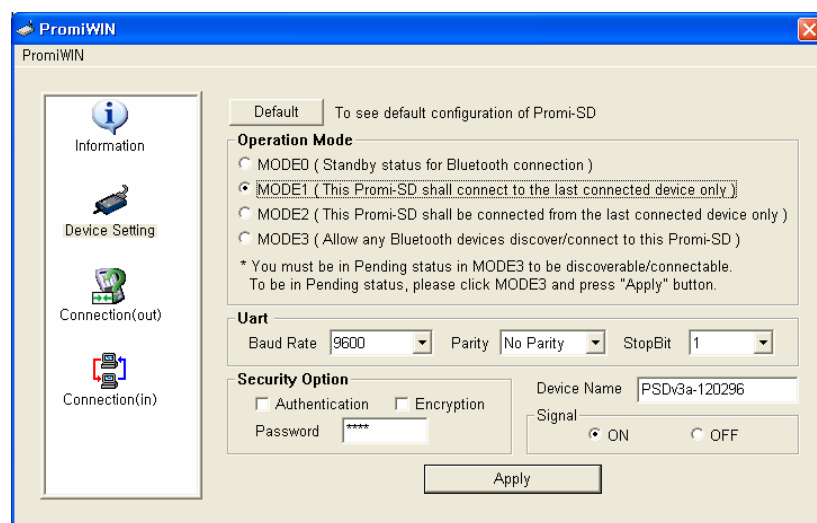

Figure 6.
1. After making a Bluetooth wireless connection between two SD units, set the operating mode of one SD to MODE 1, as shown in Figure 6.